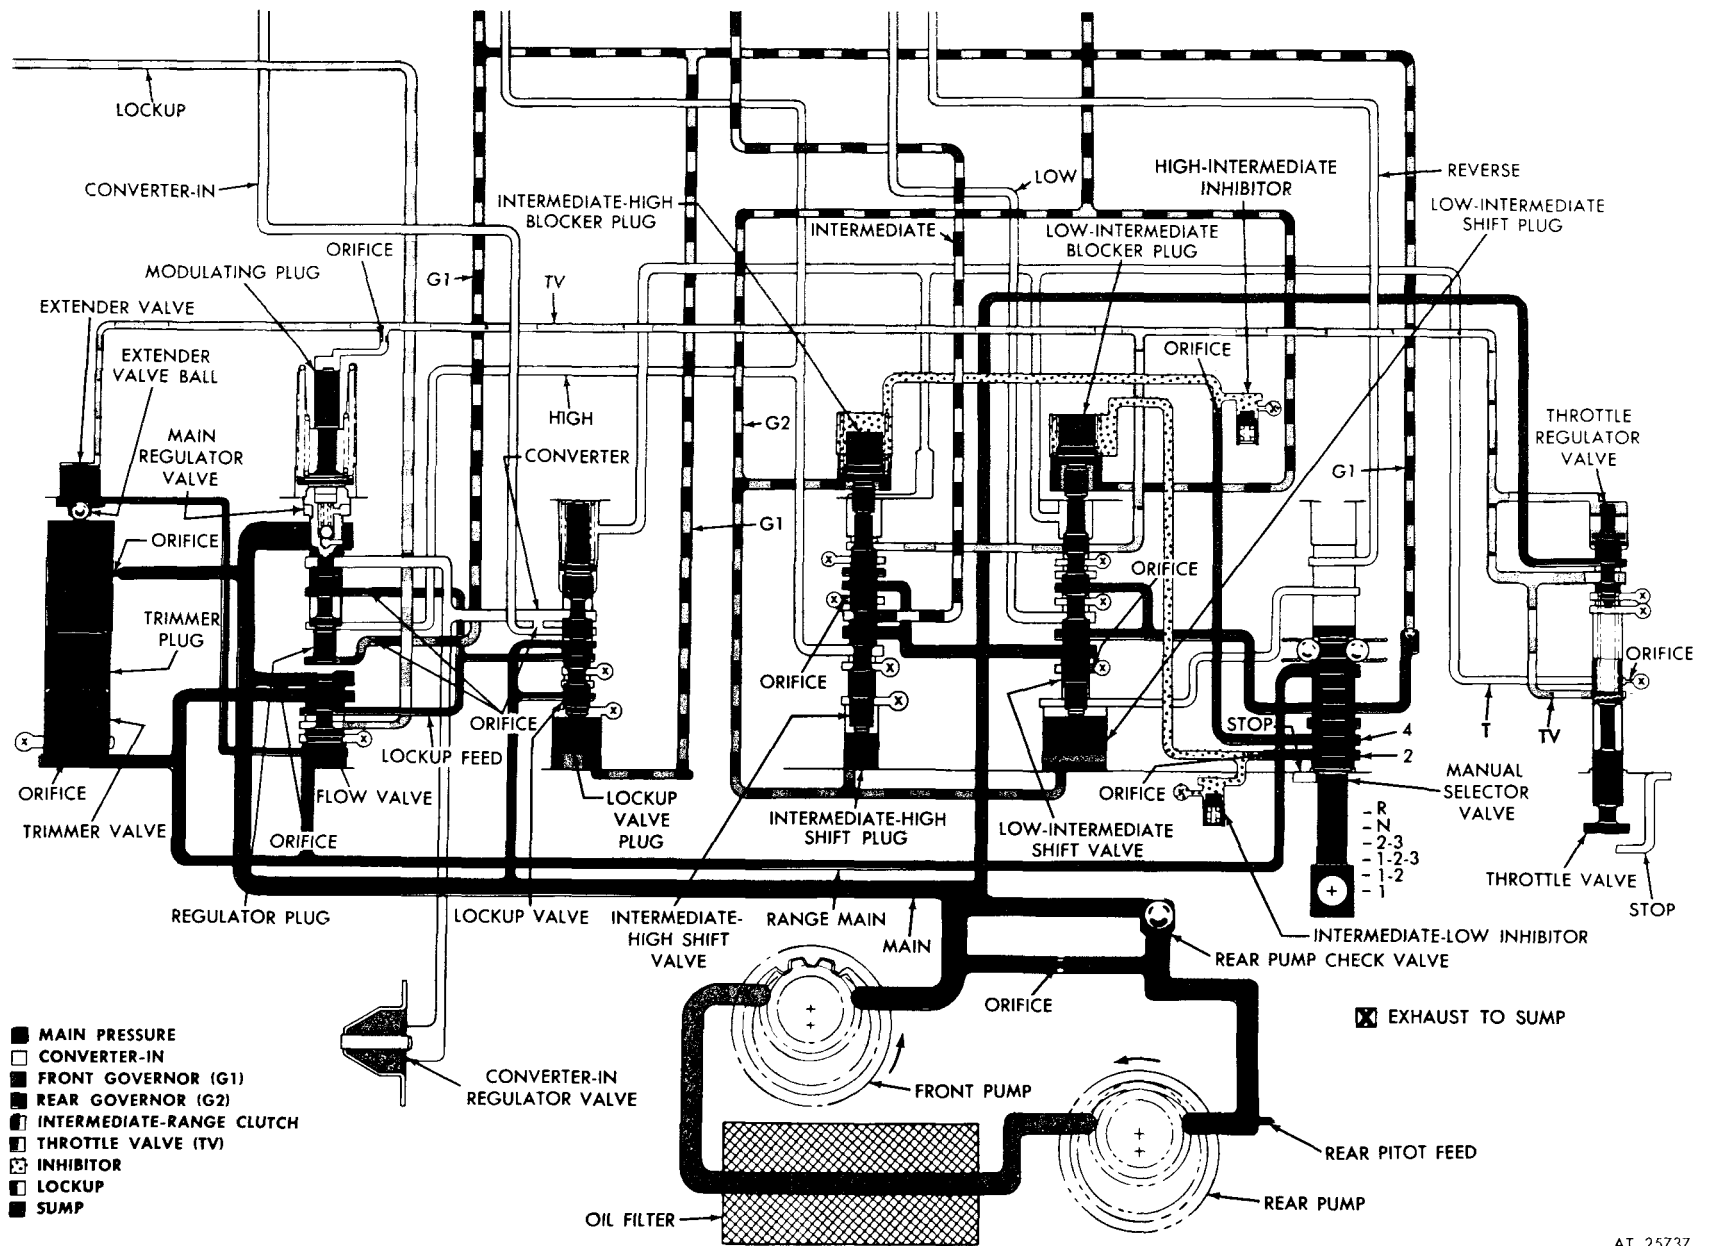

Figure 2-10. Hydraulic system, intermediate-low inhibitor acting—schematic view.
a. Inhibitor Prevents 2-1 Downshift at Excessive Speed (fig. 2-10).
(1) Figure 2-10 illustrates the hydraulic System in intermediate-range operation even though the manual selector has been moved to a position which does not indicate intermediate-range operation. This condition results when vehicle (transmission output) speed is too great for safe operation in low range at the time a manual downshift is made.
(2) When the manual downshift is made, rear governor (G2) pressure is sufficient to continue holding the low-intermediate shift plug, shift valve, and blocker plug upward against spring force and inhibitor pressure. This extends intermediate-range
(3) When vehicle speed decreases, G2 pressure also decreases. When G2 pressure falls to a value which will no longer hold the low-intermediate shift plug, valve, and blocker plug upward against spring force and inhibitor pressure, the downshift to low range will occur. This is an automatic shift, which lags behind the manual shift.
b. Other Functions Same as Low-Range operation (fig. 2-10). In intermediate-range operation (selector at 1-position), the circuits not involved in action of the intermediate-low inhibitor operate as described in paragraph 2-15 for low-range operation.